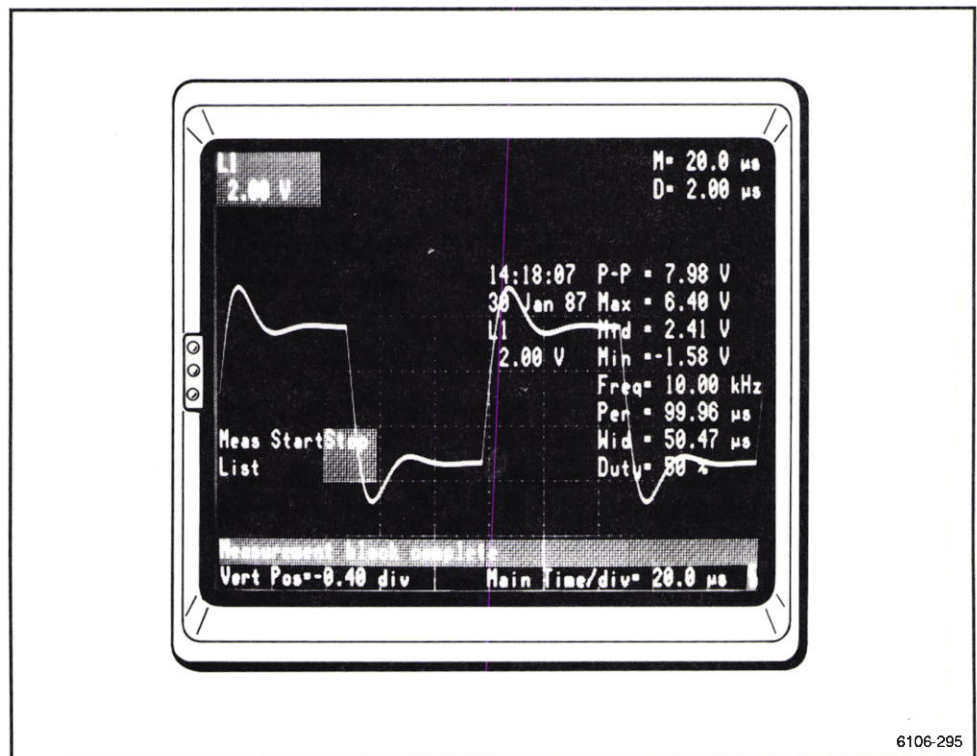

Figure 2-96. The MEASURE menu display after touching **Start**.
4. To begin the measuring process, touch **Start**. The results will appear on the right side of the display along with the time and date of the measurement. To get new results, touch start again. (See Fig 2-96.)